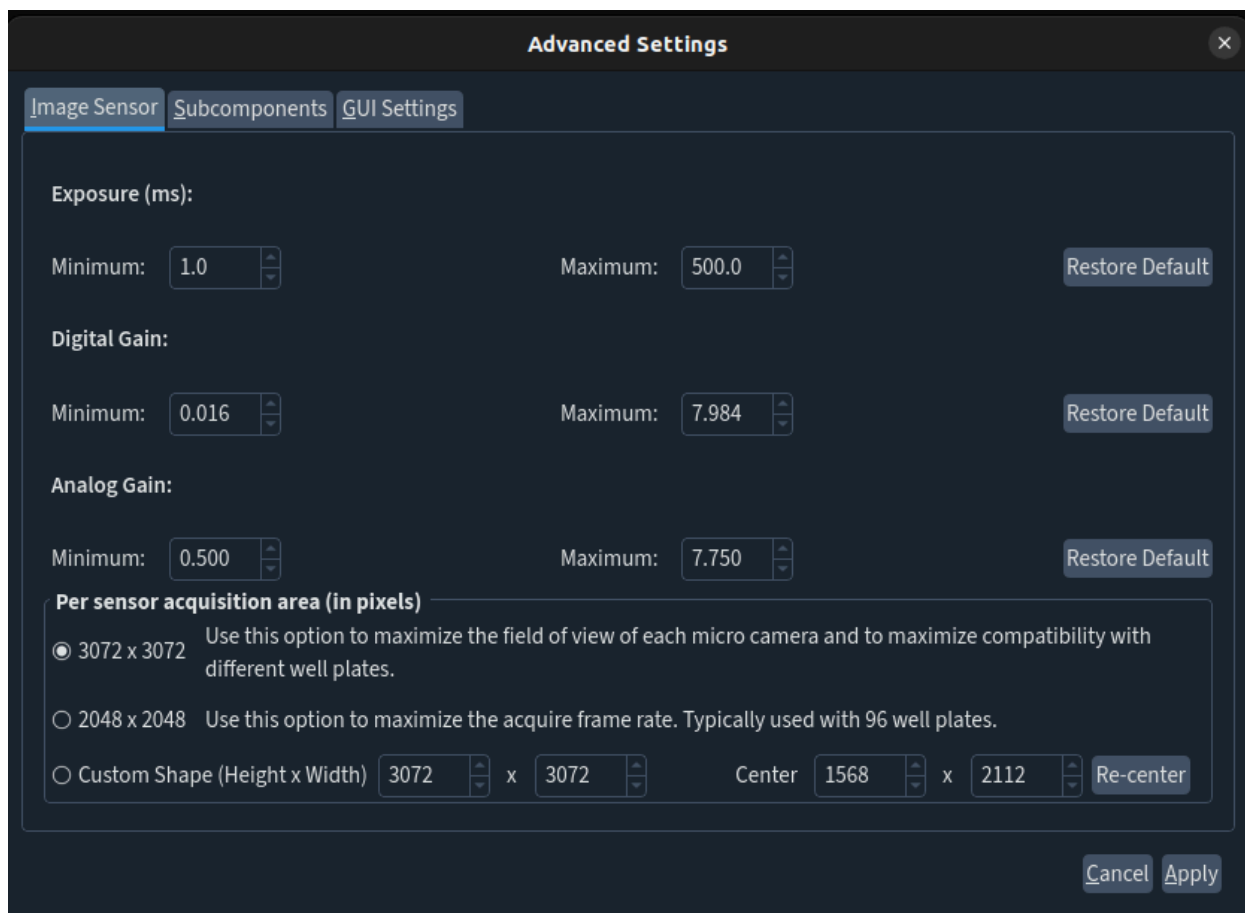

Fig 29: Advanced menu, additional settings panel
- 1) Select “Additional Settings” Advanced menu on the toolbar, pictured below (Fig 23, Fig 29).